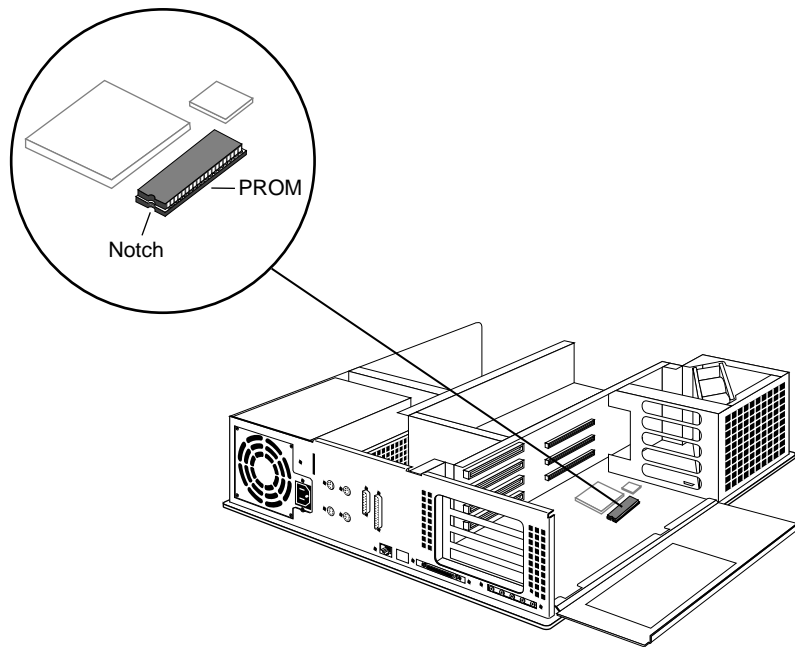

Figure 0-1 Locating the PROM Chip on the System Board
Locate the PROM chip. The PROM chip is located in a socket on the system board, below the slot from which you removed the graphics board, as shown in Figure 0-1.
1. Before removing the PROM chip, familiarize yourself with it. Note that it has a semicircular notch at one end, as shown in Figure 0-1. You'll use this notch to orient the new PROM when you install it.